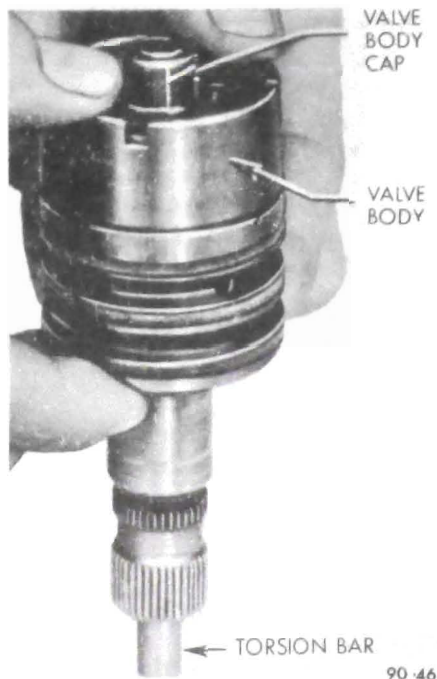

Figure 90-56 Removing Stub Shaft, Torsion Bar and Cap Assembly From Valve Body
4. Remove the stub shaft, torsion bar and cap assembly by holding the valve assembly with stub shaft downward as shown and rapping torsion bar lightly against workbench to dislodge the cap from the valve body to cap pin. See Figure 90-56. Complete the removal of the stub shaft torsion bar and cap assembly.